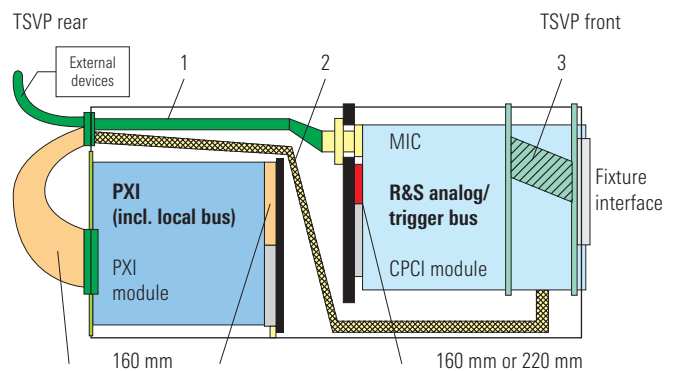

Fig. 4: TSVP cabling concept
The adapter system (APC = application connector) (Fig. 4, yellow) is likewise very flexible, so that a wide variety of signals can be handled. The APC connectors can be configured separately for each slot for:
This is done by cabling the rear CPCI or PXI measurement cards or external devices through the system (Fig. 4, item 6 and item 1) either right to the fixture interface or to a Rohde&Schwarz module that takes the signals to the interface or, via the internal analog and trigger bus, to the extended CPCI backplane (Fig. 4, item 5).